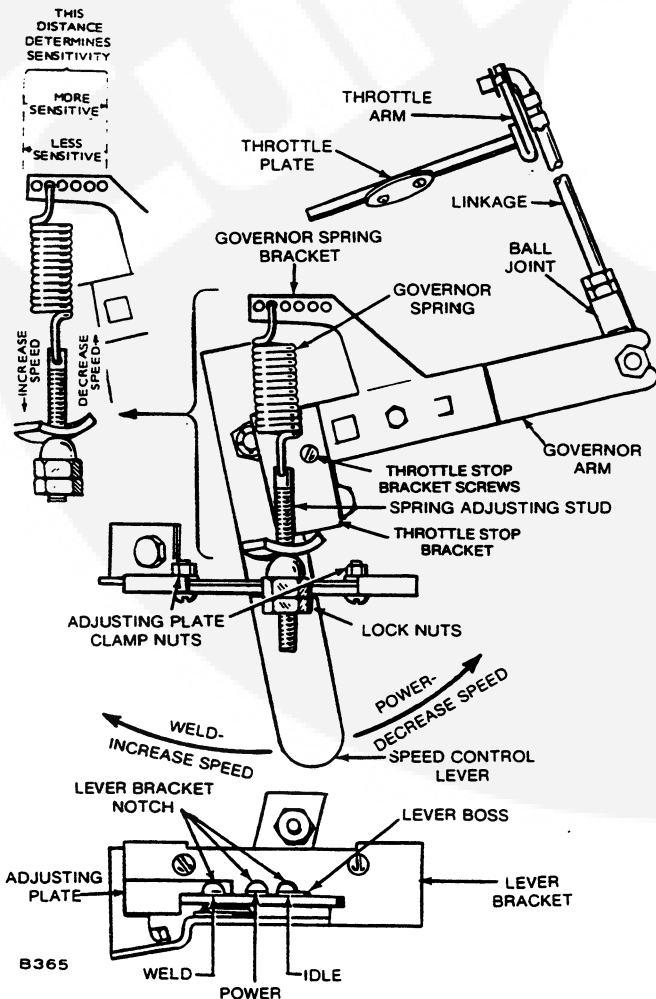
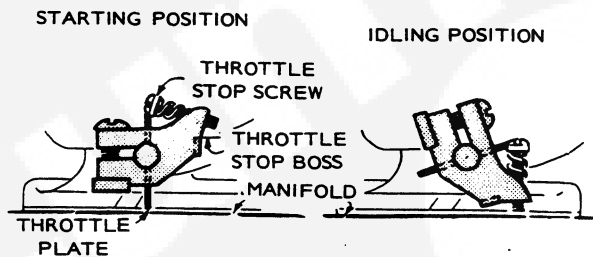

FIGURE 10. GOVERNOR ADJUSTMENTS
FIGURE 12. THROTTLE STOP SCREW
With the engine stopped, work the governor arm back and forth several times by hand. If the linkage is binding or extremely loose, find where the trouble lies and adjust or replace parts as required, Figure 10. A binding condition at any point will cause the governor to act slowly and regulation will be poor. Exces-
A speed control lever (Figure 10) is used to change the nominal engine speed from 3100 rpm no load as desired for welding, to 1900 rpm, at no load as desired for electric power or to 1100 rpm, Spec J (1000 rpm, Spec G), for idle.
Linkage: The governor linkage rod connects the governor arm (Figure 10) to the throttle shaft lever so they function properly when the engine starts and runs. The linkage rod is adjusted with the engine stopped and the throttle plate at wide open position. The engine will also crank and start in this condition. Adjust the linkage as follows.
Idle Speed Setting: This is controlled by the throttle stop bracket (Figure 10) and by the throttle stop screw (Figure 12) on the carburetor.
3. With engine running and no generator load, pull governor arm forward so the throttle stop screw (Figure 12) touches the stop. Set throttle stop screw for a stable idle of 1100 rpm.
1. Loosen adjusting plate clamp screws (Figure 10).
Adjust the sensitivity to give the closest regulation (least speed and voltage difference between no load and full load) without causing a hunting condition, by moving governor spring in governor spring bracket, Figure 10.